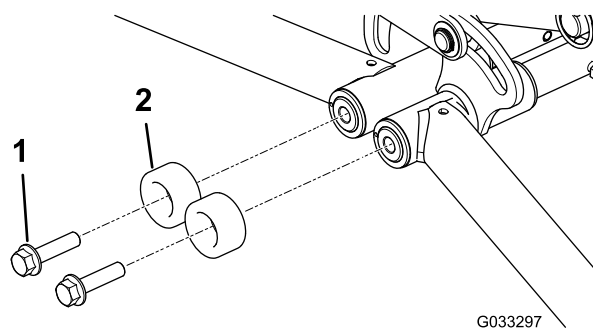

Figure 19
2. Remove the existing flange-head bolts and the round bumpers (Figure 19).